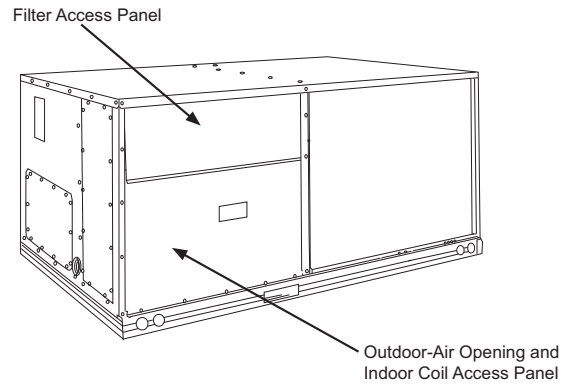

Fig. 27 - Typical Outdoor Air Section Access Panel Locations
3. Remove the indoor coil access panel and discard (See Fig. 27).